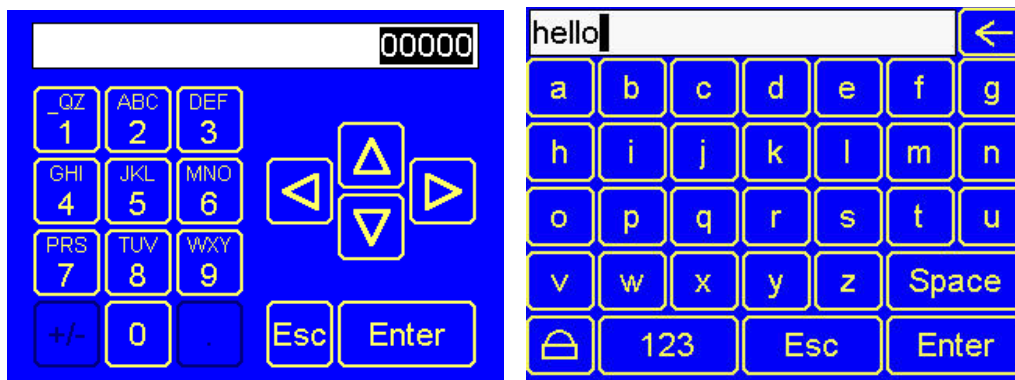

Figure 13.2 - Alpha-numeric Keypad and ASCII Keypad
To allow entry of a specific number or text, several of the input objects invoke a pop-up alpha-numeric keypad when the object is touched. An example of the alpha-numeric keypad invoked from a numeric input object is shown below in Figure 13.2. Once invoked, the operator may touch the appropriate keys to enter a specific value. When entering a value, the alpha-numeric keypad is in one of two modes [new-value or edit-value].
When editing an ASCII value, an ASCII keypad is displayed as shown Figure 13.2. The ASCII keypad has three (3) modes: numeric, symbols, and alpha. In Alpha mode, the Caps Lock button may be pressed to access capital letters. When you first enter this editor typing, a character will overwrite the entire old string and start a new entry. You may press the back space arrow to delete the previous character. Pressing Enter will save the entry; pressing ESC will cancel the edit and return the string to the previous value.